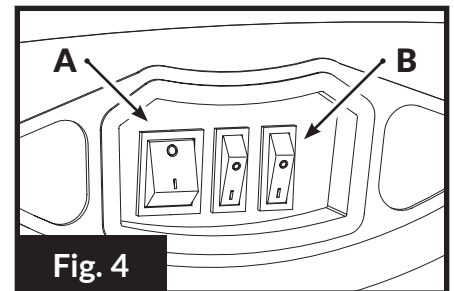

Fig. 4
1. Make sure that the main switch (A) is in the [OFF] position, and plug in the machine. (Fig. 4)
3. Turn the main switch (A) to [ON] position; the refrigerant group unit will automatically start. (Fig. 4)
4. To start the mixing action, turn the mixing system switch (B) to [ON] position. There is a switch for each container. (Fig. 4)